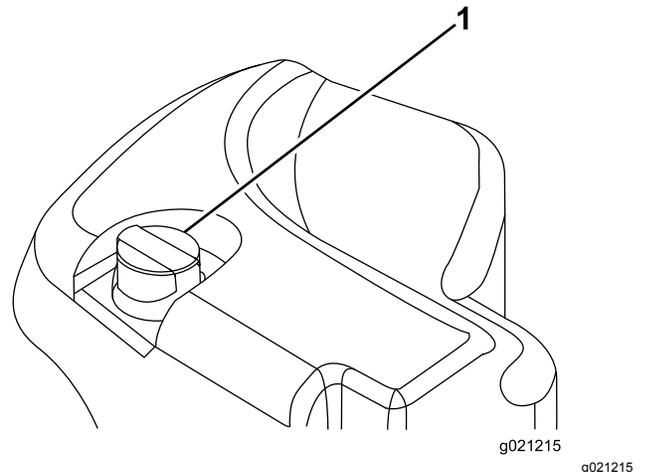

Figure 18
2. Clean area around filler neck and cap of hydraulic tank (Figure 18).